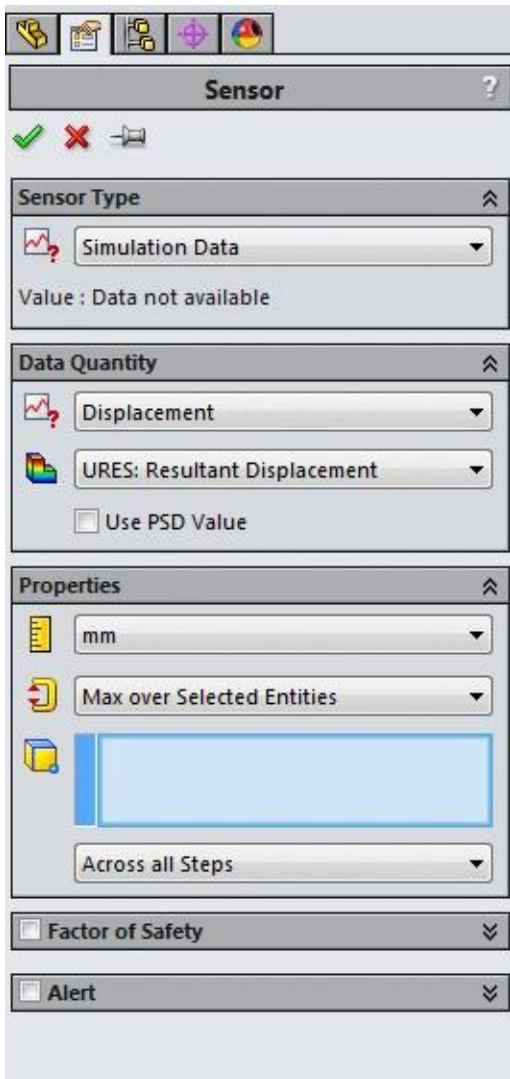

Figure-33. Sensor PropertyManager
1. If you want to check the deformation for a specific part/face/edge/vertex then click on the **I need to limit deformation in specified regions of my model(parts, faces, edges, vertices)** link button. The **Sensor PropertyManager** will be displayed as shown in Figure-33.